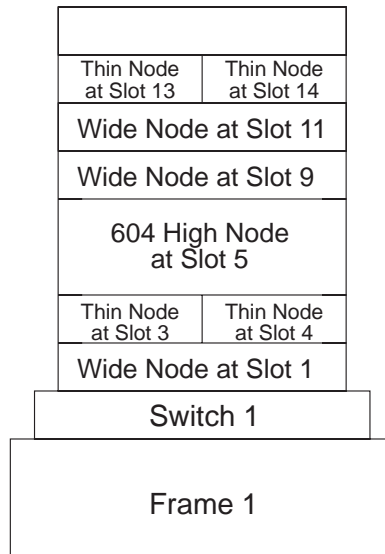

Figure 10. Node-slot assignment
- A thin node occupies a single slot in a drawer and its slot number is the corresponding slot. (See thin nodes in Figure 10.)
- A wide node occupies two slots and its slot number is the odd-numbered slot. (See the wide nodes in Figure 10.)